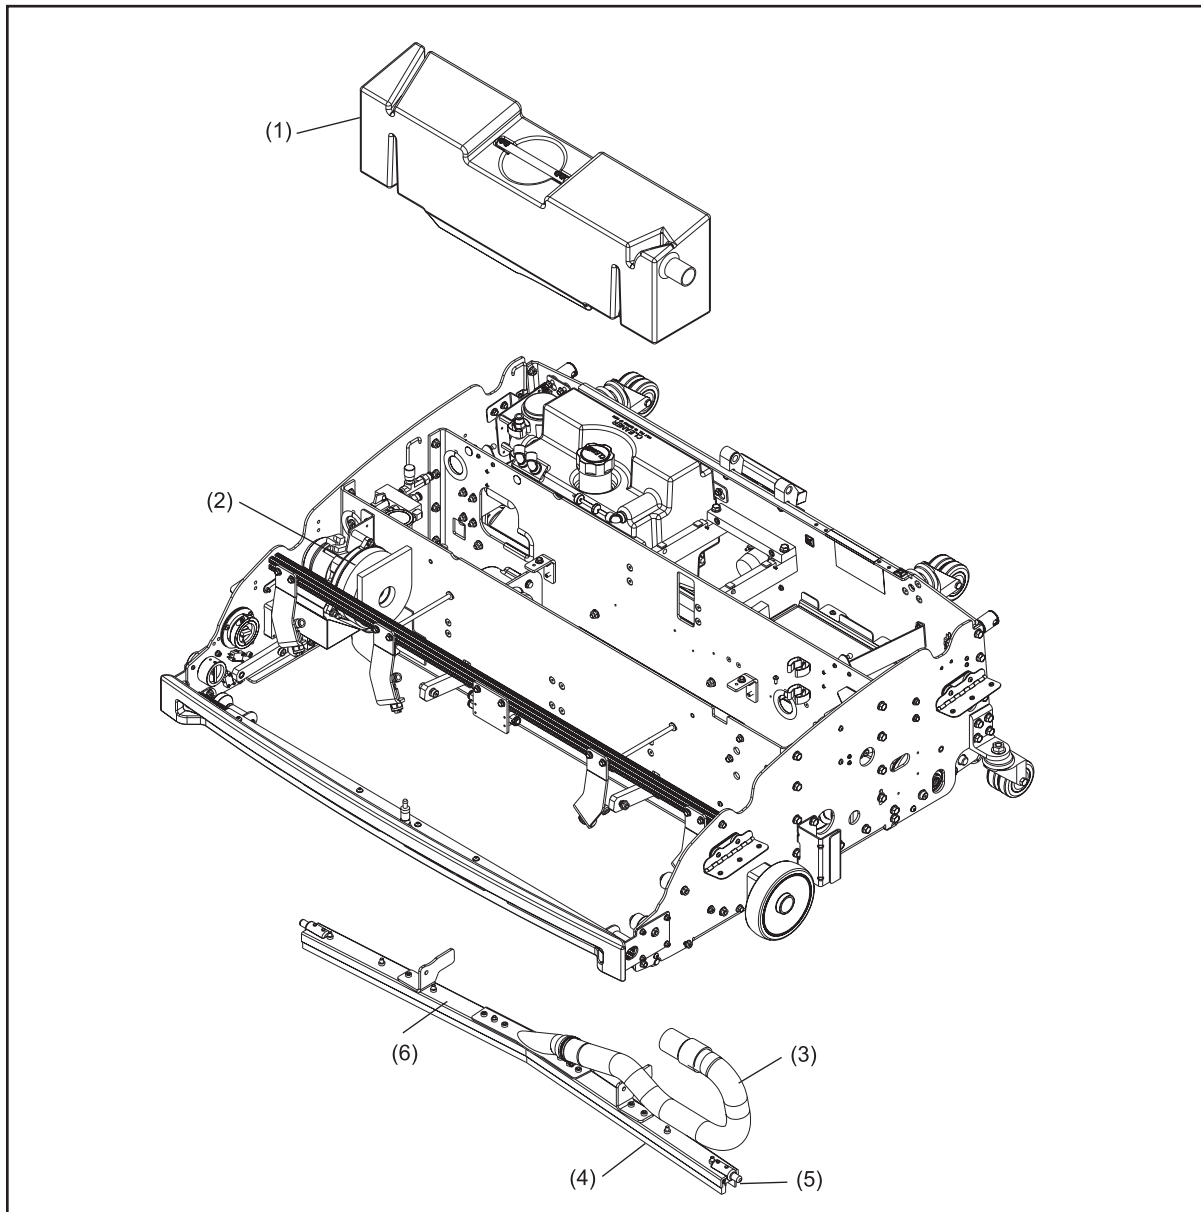

Figure 2-5. Cleaner Vacuum System
3. The **absorbent wiper** agitates the cleaning fluid on the lane to loosen dirt and old conditioner from the surface. Refer to Figure 2-5.
4. The **squeegee blade** channels waste fluid to the center of the **squeegee head assembly**. Refer to Figure 2-5.
5. All waste fluid is suctioned into the **waste recovery tank**. Refer to Figure 2-5.